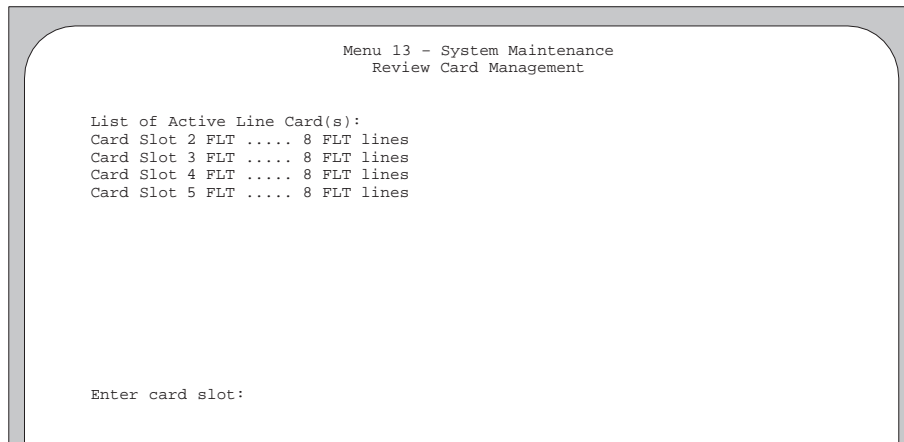

Figure 12-20. Example of Menu 13.11, Review Card Management.
2. From the SMT Main Menu, access Menu 13 – System Maintenance, then Menu 13.11, Review Card Management, as shown in the example in Figure 12-20.